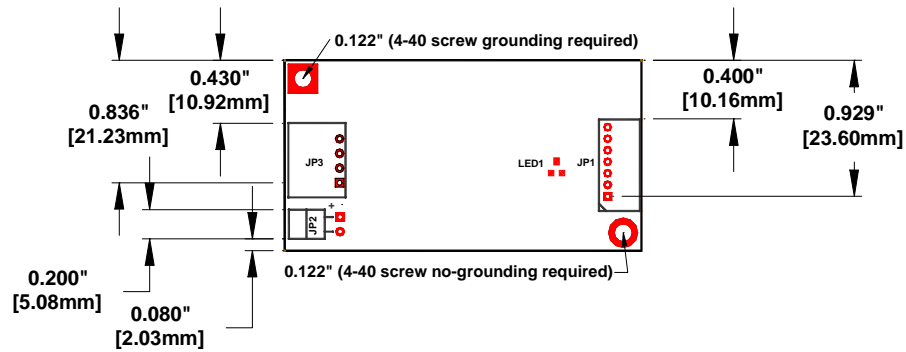

Figure 3 Connector Locations and Hole Identifications
You can easily mount the MT410 controller using standard 4-40 machine screws and washers through the two existing mounting holes. All the components and the connectors are mounted on the top side of the PC board to reduce the overall profile and to minimize clearance requirements. Figure 3 shows the connector locations and identifies which of the mounting holes requires grounding.
- Ground the controller. Mount it to a metal chassis surface if possible. If you must mount it to a non-metal surface, be sure to attach a ground wire to the hole marked for grounding in Figure 3 as described in the last two paragraphs of this section.
To avoid malfunctions or damage due to electrostatic discharge (ESD), make sure you properly ground the controller through the mounting hole shown in Figure 3. Ideally, you should mount the controller to a metal chassis surface using metal screws and metal standoffs.
If you use plastic screws, or if you mount the controller to a non-metal surface, you must connect the mounting hole *nearest the touchscreen connector* (JP3) to a grounded location. See Figure 3. Be sure to route the wire to the nearest grounded location, and keep the wire dimensions as short and as thick as possible. MicroTouch recommends that you use braided ground cable with a flat lug crimped at both ends.